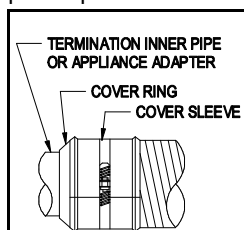

Figure 10
9. Maintain the appliance manufacturer's clearances to combustibles. If the appliance collar is within 18" of combustible material, wrap minimum 1-1/2" ceramic insulation (installer-supplied) around the exposed portion of the termination inner pipe and appliance adapter (Figure 10).
9. Slide the cover sleeve and cover ring together to engage the ring in the groove of the sleeve, and tighten the cover sleeve clamp (Figure 10).
10. To maintain 1" clearance to combustibles, wrap minimum 1-1/2" thick ceramic insulation (installer-supplied) around the exposed portion of the termination inner pipe (Figure 10), and secure with foil tape (installer supplied).